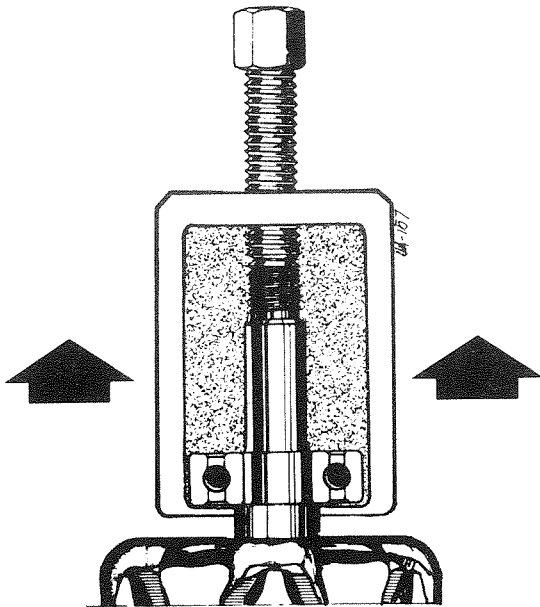

FIG. 4-39 REMOVING FRONT BEARING
**REMOVE FRONT BEARING FROM ROTOR** — Use bearing puller to pull bearing off shaft. If bearing is to be re-used, puller must contact inner race only, Figure 4-39. Remove front bearing retainer from shaft, inspect for distortion, replace if unsatisfactory.